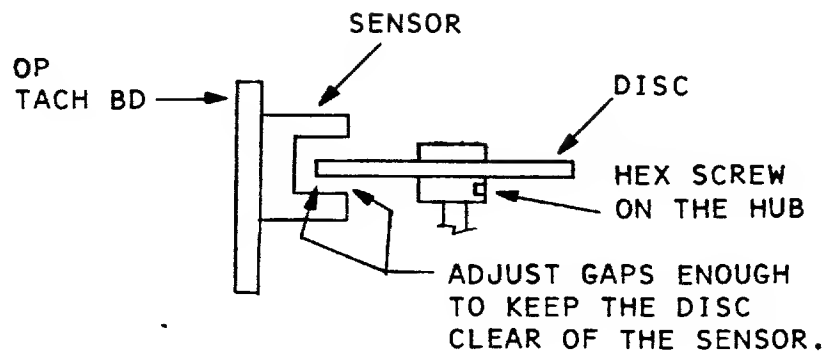

Figure 6-2. Optical Tachometer Alignment
- b. Loosen the two hex screws on the tach disk hub and adjust height of disk as shown in figure 6-2.